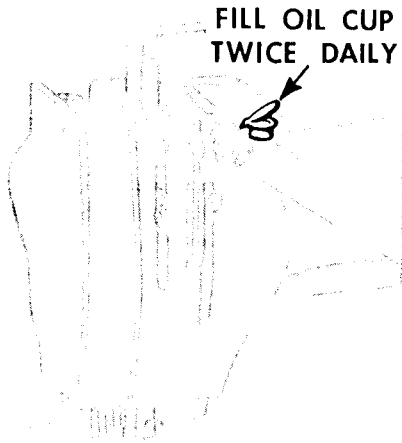

Fig. 7. Oil Cup
2. Fill oil cup illustrated in **Fig. 7**.